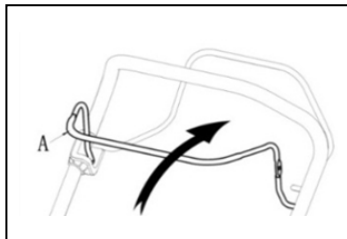

Fig.11B
2. Pull the engine brake lever towards the handle ; Fig.11B.